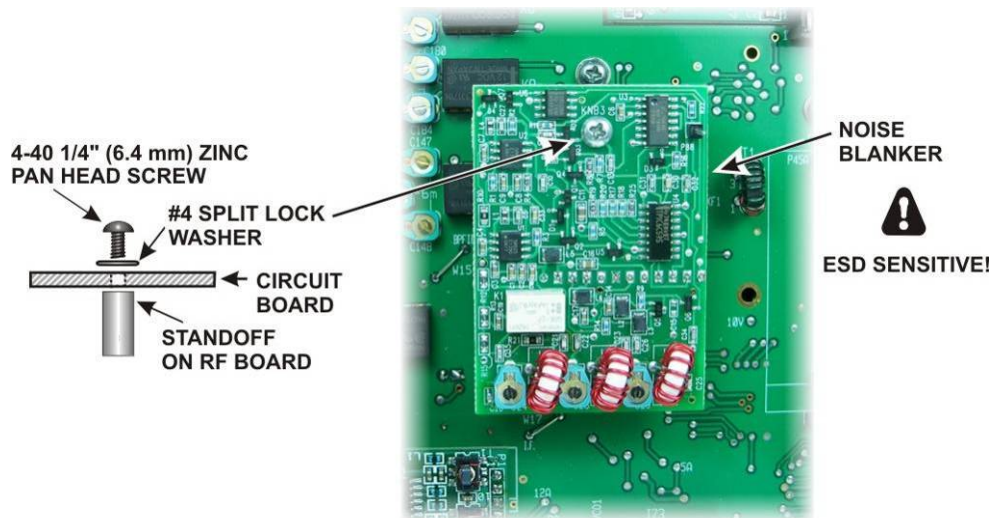

Figure 89. Installing the Noise Blanker Board.
- Plug the noise blanker board into J77 and attach it to the standoff using the hardware shown in Figure 89.